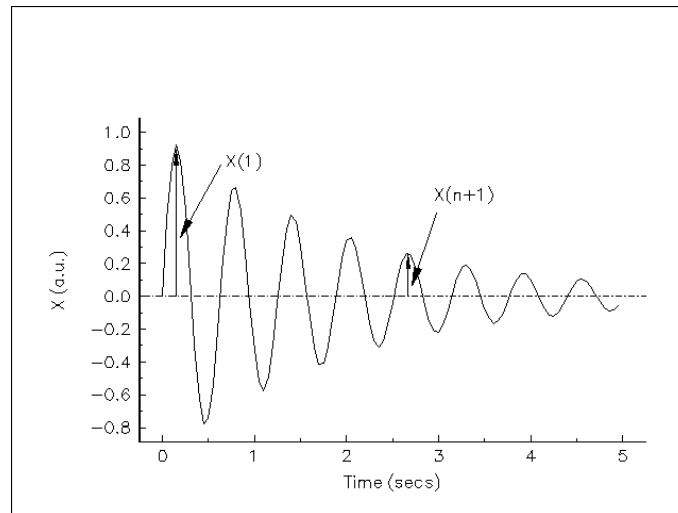

Figure 2
The logarithmic decrement technique is illustrated by figure 2 and theoretical notes on how it is developed are available in the third year course notes or in the course text book (W.T. Thomson)
Use the apparatus provided to generate a ring-down curve similar to figure 2 and hence obtain an estimate of the damping ratio  $\zeta$  using equation (8) and hence determine the damper rate  $C$ .